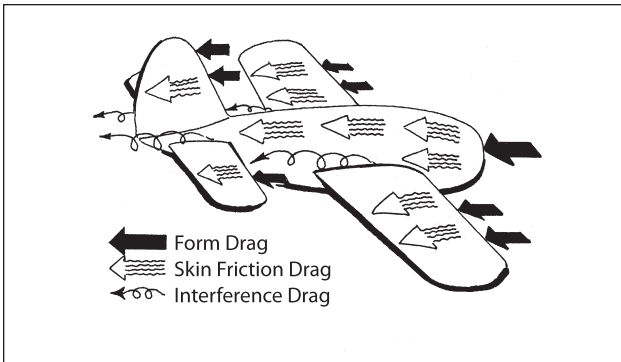

Figure 2-15. Parasite drag.
Parasite drag (Figure 2-15)—the drag composed of (1) “form drag” (the landing gear and radio antennas, the shape of the wings, fuselage, etc.), (2) skin friction, and (3) airflow interference between components (such as would be found at the junction of the wing and fuselage or fuselage and tail). As the word “parasite” implies, this type of drag is of no use to anybody and is about as welcome as any other parasite. However, parasite drag exists and it’s the engineer’s problem to make it as small as possible. Parasite drag increases as the square of the airspeed increases. Double the airspeed and parasite drag increases *four* times. Triple the airspeed and parasite drag increases *nine* times.